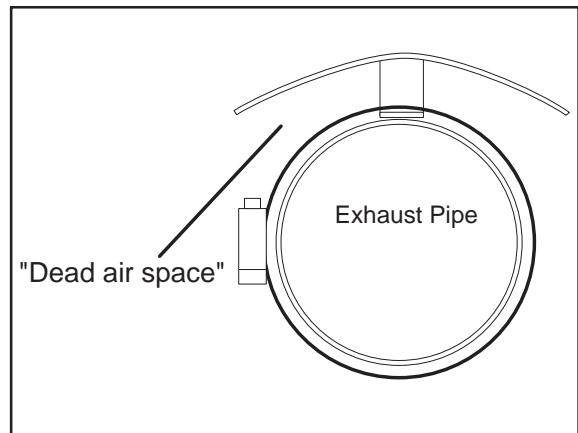

Figure 2
3. Bend the heat shield to form it around the tail pipe. Be sure to maintain a "dead air" space of 1/2" to 1" between the tail pipe and the heat shield (Figure 2).